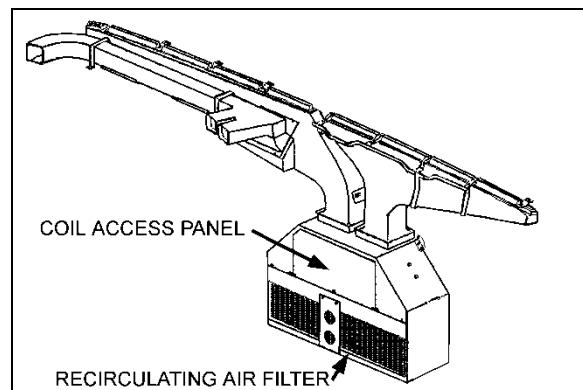

FIGURE 14: DRIVER'S UNIT AIR FILTERS
**Once a year**, gain access to the driver's unit, remove the coil access panel (Figure 14) and clean the **driver's** unit evaporator and heater coils with low pressure air jet, taking care not to damage fins. Clean the bottom of the defrost plenum.